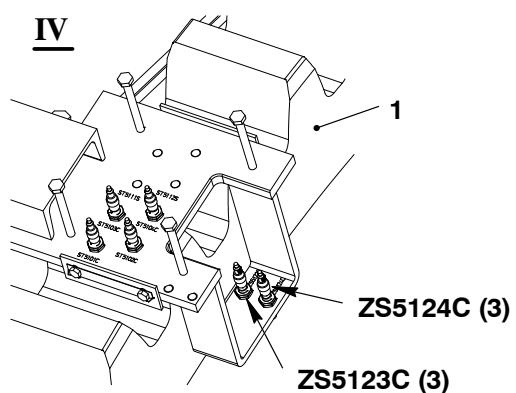

Fig. 5
Two more proximity sensors (3, Fig. 5) are used to find the crank angle marks for TDC and BDC.
- 1) Disconnect the proximity sensor (3, Fig. 5) and remove it.